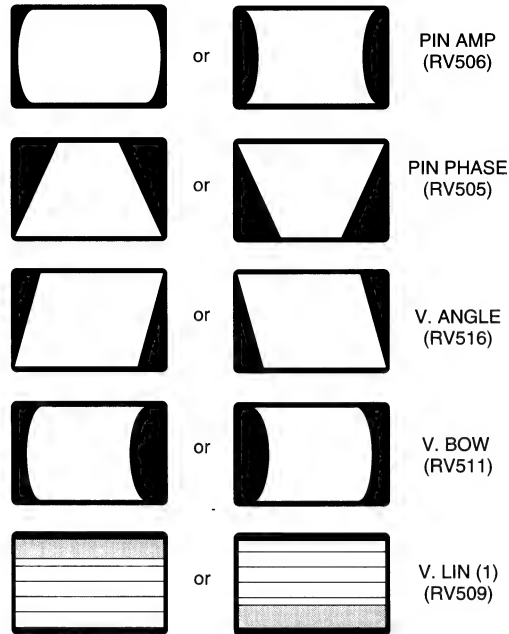

Figure 11 Geometric Distortions
4. FIGURE 11. If any of the test pattern boxes are not the same size, compare the test pattern display with the geometric distortions shown in FIGURE 11.